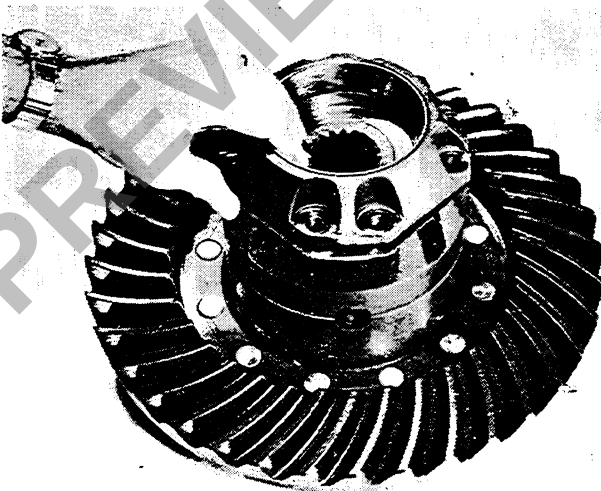
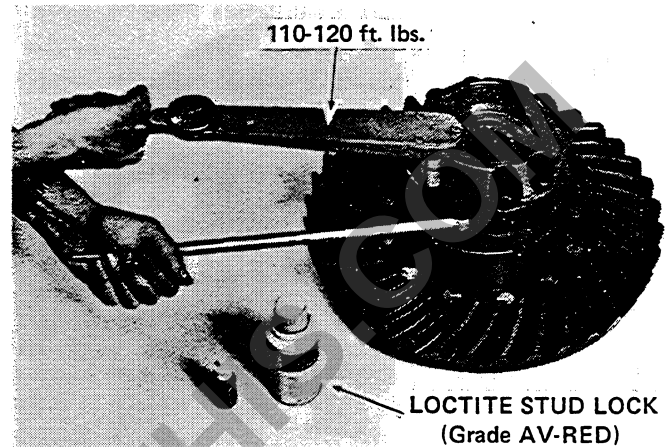

FIGURE 24: Bearing Cap Installation
FIGURE 25: Differential Case Bolt Installation
7. Install the bearing adapter. Refer to Fig. 24. Degrease the capscrews and tapped holes, if not previously done ("Loctite" primer may be used). Apply 4 drops of "Loctite" Stud Lock, grade AV (red), to each capscrew. Install and tighten the capscrews to 105-120 ft.-lbs. torque. Refer to Fig. 25.